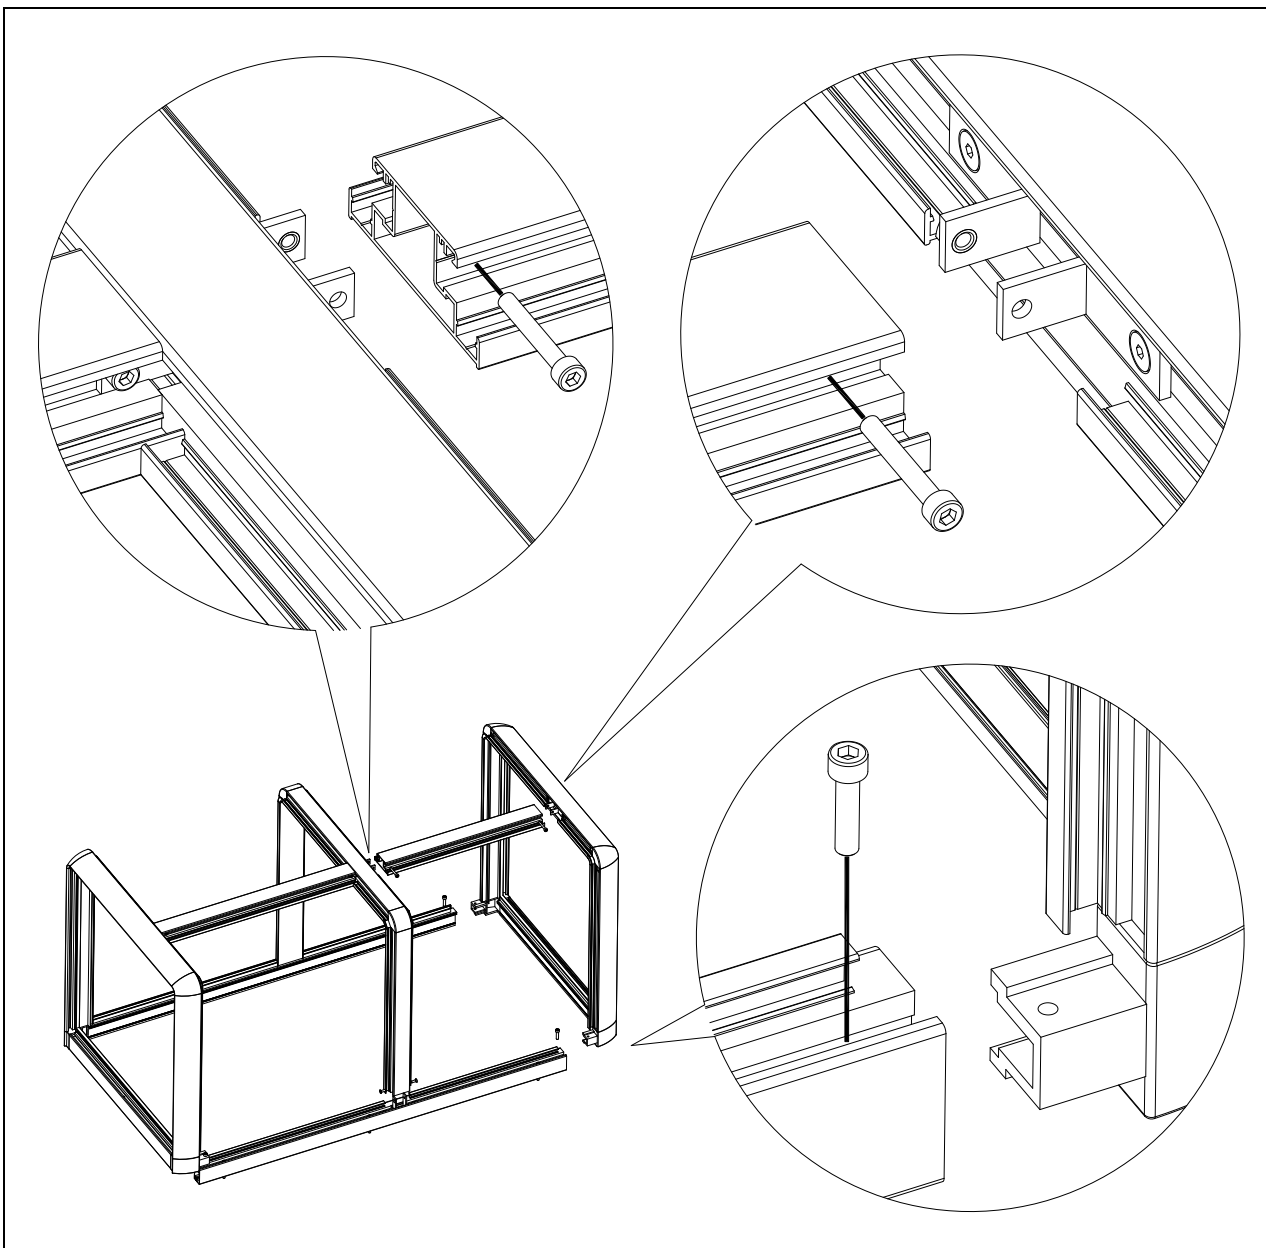

Figure 28: exploded view sound shield M-SQ16
- 2 The sound shield canopy can be disassembled according to exploded view below (figure 28).